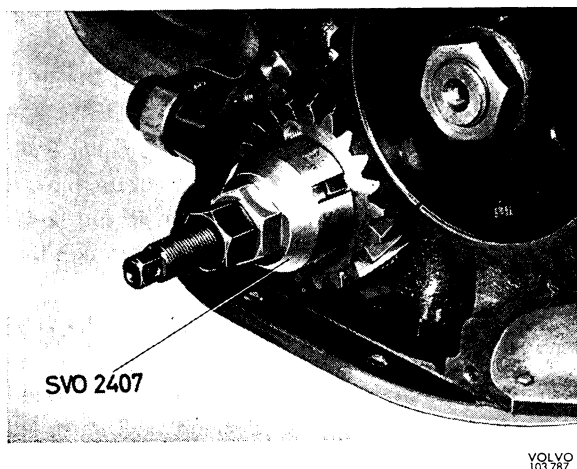

Fig. 2-40. Fitting crankshaft gear
6. Fit the crankshaft gear by using tool SVO 2407 and the camshaft gear by using SVO 2408, see Figs. 2-40 and 2-41. Fit the hub on the crankshaft. Do not push the camshaft backwards so that the seal washer on the rear end loosens. Check that gears are in the correct position